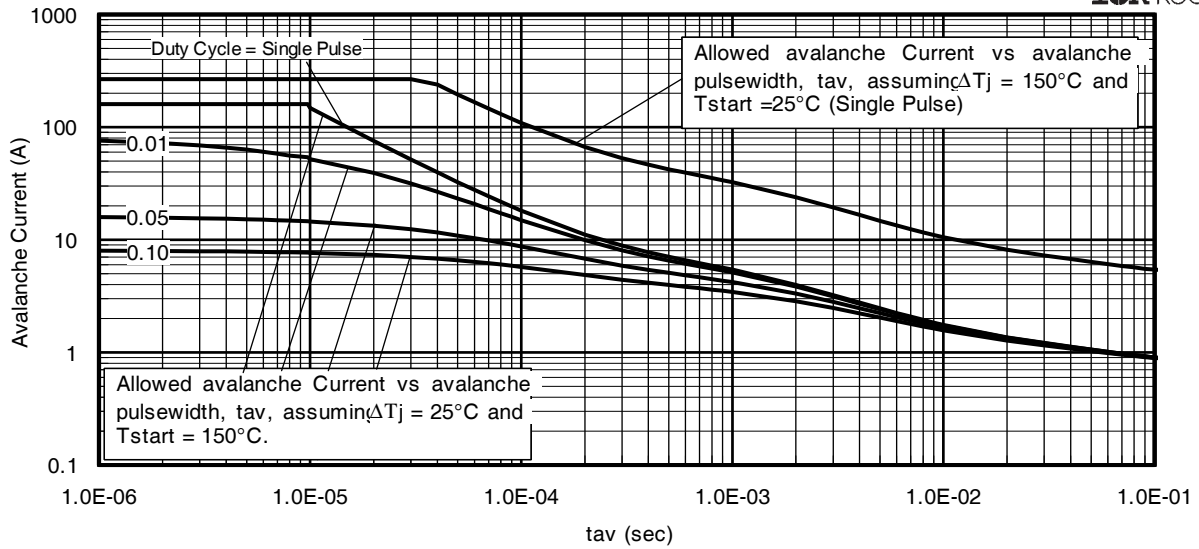

Fig 15. Typical Avalanche Current vs. Pulsewidth
7. ΔT = Allowable rise in junction temperature, not to exceed T_{jmax} (assumed as 25°C in Figure 15, 16).